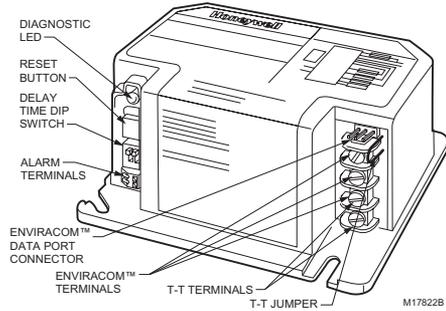

Fig. 2. R7184 terminals, connectors, LED, reset button and DIP switch locations.
Burner motor-off Delay: 0, 2, 4 or 6 minutes. Field selectable using dual inline programmable (DIP) switch positions 1 and 2. Select models have 0.5, 2, 4, or 8 minute delays. (See Fig. 2 and 12.)
^a Select models are provided with a T-T jumper which can be disabled by cutting with a pair of side-cutting pliers. (See Fig. 2.)
2. Before mounting the control, make line voltage connections as shown in Fig. 2 through 11. Splice lines with solderless connectors. Do not exceed load ratings shown on the device label.
3. After mounting make low voltage connections to the screw terminals (see Fig. 2 through 11).
- ① POWER SUPPLY. PROVIDE DISCONNECT MEANS AND OVERLOAD PROTECTION AS REQUIRED.
- ② OPTIONAL FEATURE ON SELECT MODELS.
- ③ REFER TO DEVICE LABEL FOR WIRE COLOR CODE.
- ④ VALVE IS OPTIONAL ON SPECIFIC MODELS.
- ⑤ SEE FIG. 2.
- ⑥ ENVIRACOM™ TERMINAL 3 IS ALSO THE FIRST THERMOSTAT TERMINAL.